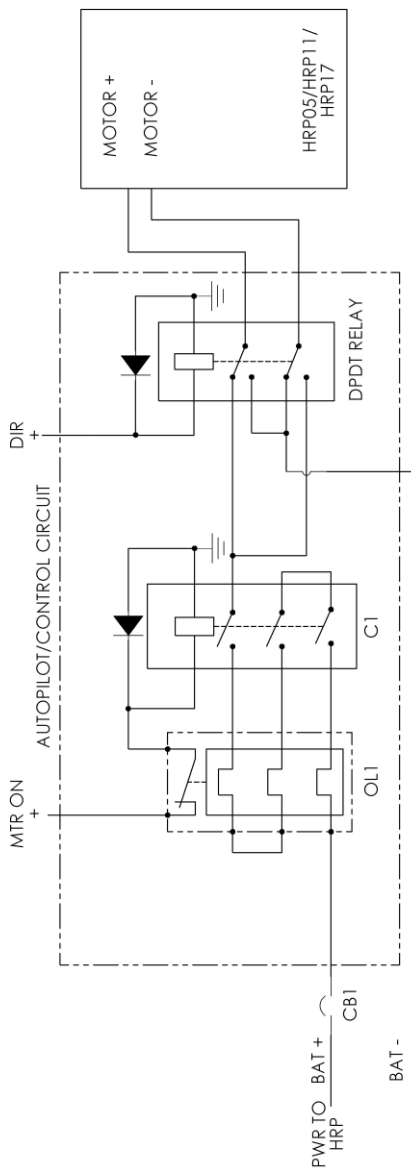

Figure 4: HRP Basic recommended wiring schematic
The minimum arrangement required to electrically operate the HRP is shown in Figure 4. This consists of a main contactor and thermal overload at “C1” and “OL1” respectively to provide the connection to the vessels main power supply. A secondary reversing contactor is required to reverse the polarity of the motor to provide bi-directional fluid flow. The input leads to the control circuit can be connected to an autopilot system as described in 4.3.1 or a jog style control as described in 4.3.2.
A circuit breaker, shown as “CB1” in Figure 4, is also required on the main power lead. This circuit breaker protects the equipment in the event of a short circuit, as the thermal overload will typically have a time delay before isolating the circuit. Sizing of the circuit breaker should be done as recommended by the thermal overload manufacturer to prevent damage to the overload during a large overcurrent condition. The circuit breaker must be sized so it's fast acting portion (Magnetic trip curve) will protect the overload in the event of a short circuit or severe overcurrent. Heed must be given though to the maximum hard over current specified in Table 1, circuit breakers should be sized so the fast trip is above this value.
2. Observe the recommended thermal overload setting given in section 2.1 Table 1, and set the thermal overload, OL1 in Figure 4, to this value.